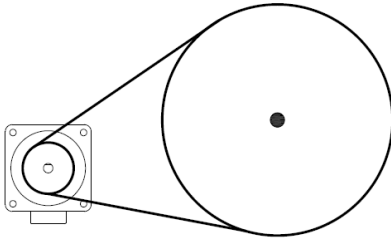

Fig. 4 Pulley assembly
- The highest rotor torque is obtained on a small pulley on the stepper motor - the stepper motor torque is transferred between the rotor and the stepper motor pulley by gear ratio (N) (Fig. 4)